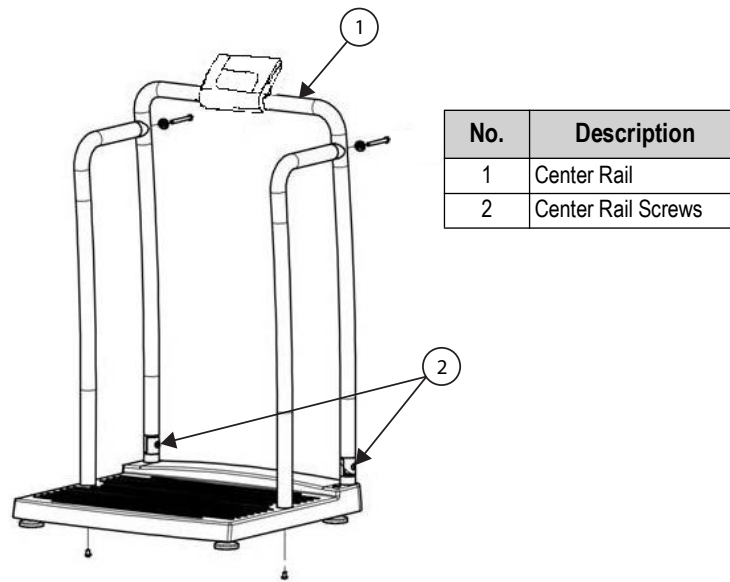

Figure 4. Center Rail Screw Locations
6. Use the hex wrench to remove the center rail screws on both of the center rail hinges (see Figure 4).
4. Use the hex wrench to remove the center rail screws on both of the center rail hinges (see Figure 4).